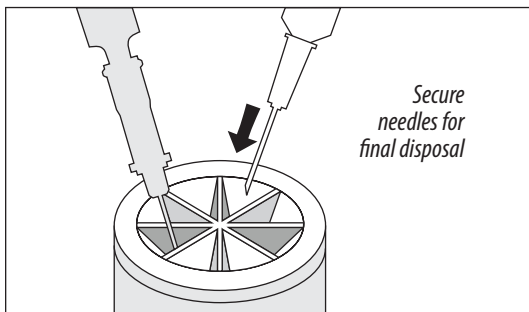

Figure 19
- Using one-handed technique, firmly push needles into disposal cup holes (refer to Figure 19).